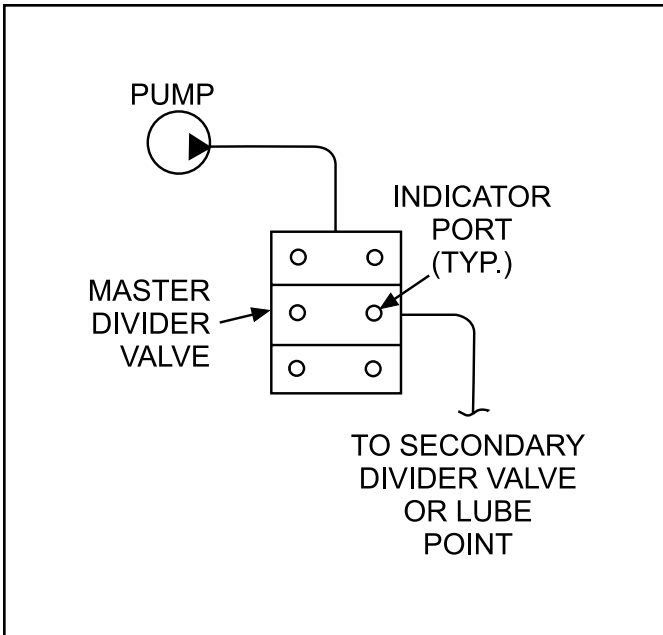

Figure 3-3. Bleeding Pump-Supplied Master Divider Valve
3.2.4.1 This procedure for bleeding a pump-supplied master divider valve should be followed only after bleeding of secondary valves and lube points have been completed as discussed in paragraph 3.2.3. Figure 3-3 represents a typical pump and master divider valve installation with reference points relating to the procedure.